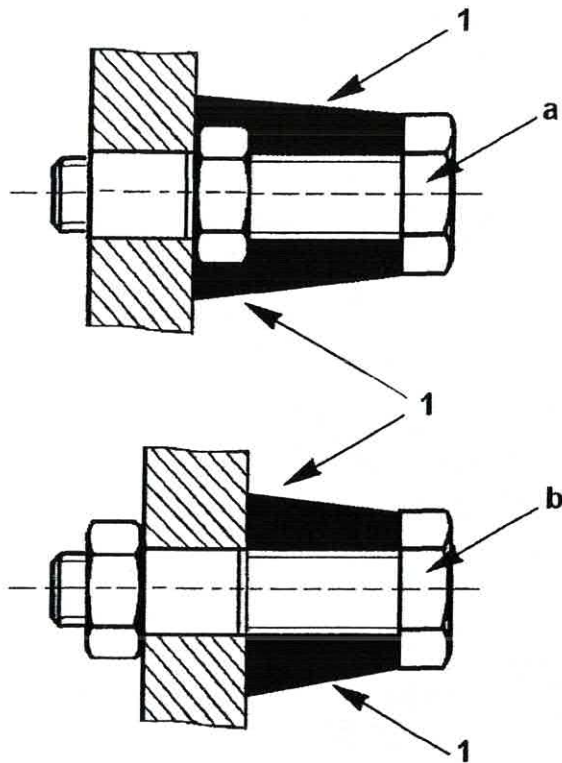

Figure 2
## 2.B.2. Sealing the screws of the auxiliary stops (Figure 2)
Seal the screws of the auxiliary stops (a) and (b) with TECHNOVIT resin (1) to be applied to all the visible threaded sections of each screw, between the screw head and the structure to which the screw is secured. For the auxiliary stop (a) located forward of the bellcrank (d), apply the resin to the external surfaces of the locknut (see Figure 2).
*Figure 2 is a general drawing that depicts the sealing area.
The configuration of your aircraft is not necessarily the same as that shown on Figure 2 (location of the locknut different).